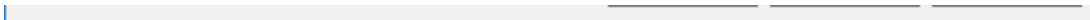

Figure 2: *Seismic well tie window configured for generating a new synthetic seismogram.*
2. In the window that appears, select Synthetic generation as the Study type, and the name of the well or hole (*Figure 2*).